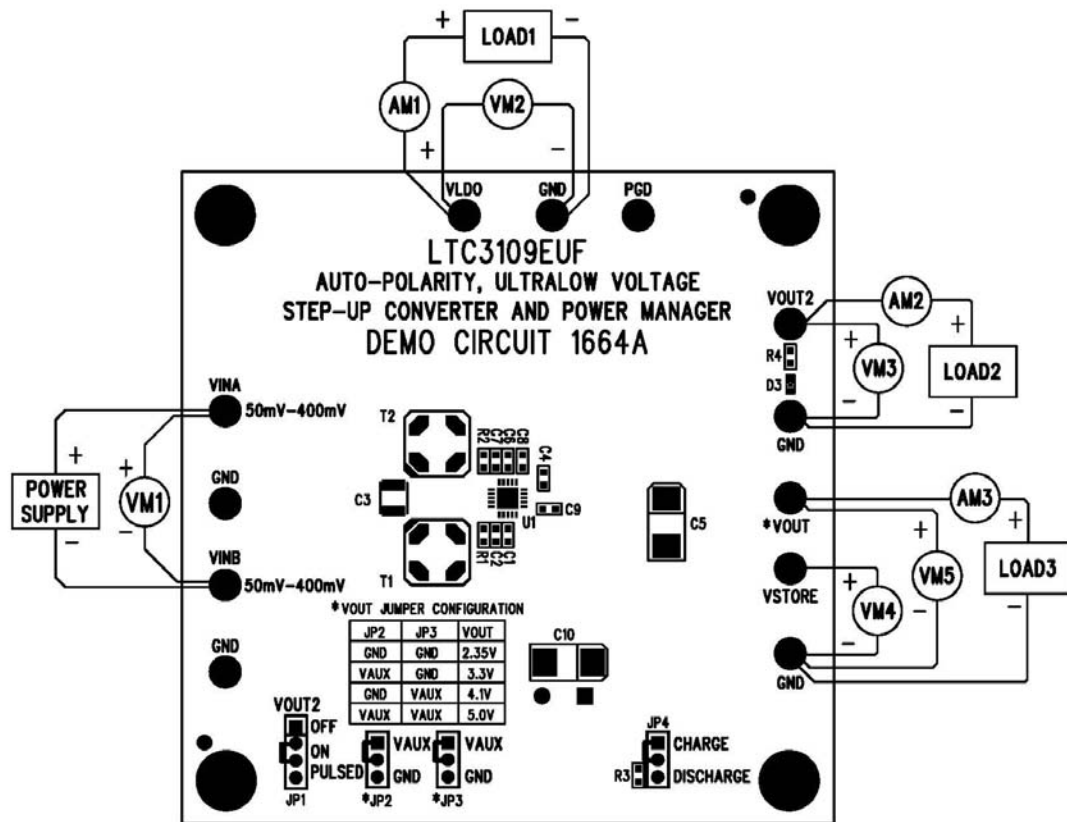

Figure 1. Connection Diagram
Using short twisted pair leads for any power connections and with all loads and power supplies off, refer to Figure 1 for the proper measurement and equipment setup. The Power Supply (PS1) should not be connected to the circuit until told to do so in the procedure below.
2. Turn on PS1 and connect (+) to VINA and (-) to VINB as shown in Figure 1. Slowly increase voltage until the voltage from VINA to VINB is 100mV. Monitor input current. If input current exceeds 60 mA turn off PS1 and look for shorts.